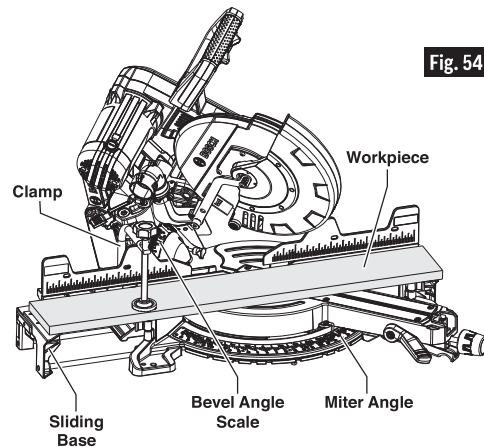

Fig. 54
2. Properly position workpiece. Make sure workpiece is clamped firmly against the table or the fence (figure 54).